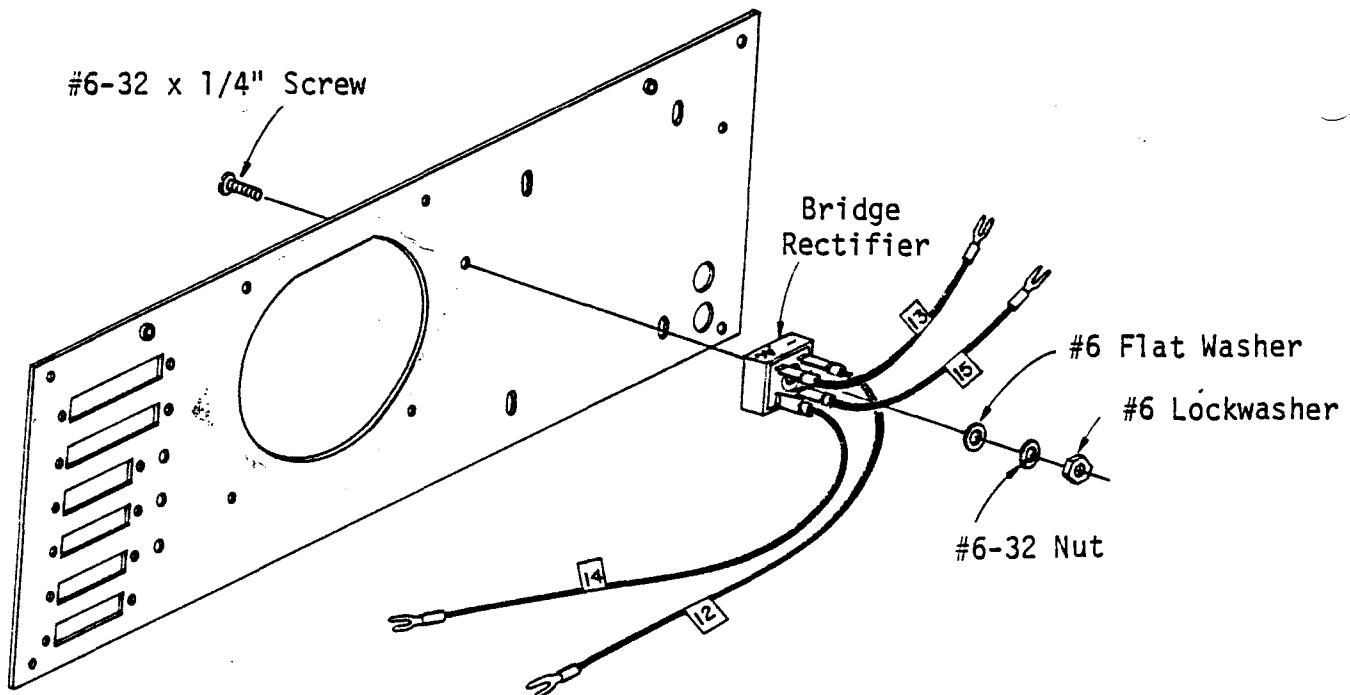

Figure 5-51. Bridge Rectifier Installation
## 5-60. BRIDGE RECTIFIER INSTALLATION (Figure 5-51)
Use the following instructions to wire the bridge rectifier (Bag 1) and mount it to the back panel as shown in Figure 5-51. The bridge rectifier is part number KBH25005.
4. Slip the A size terminal ends onto the bridge rectifier terminals as shown in Figure 5-51. Attach the two 5-inch wires to the "AC" terminals and use masking tape to label them 13 and 15. Attach the two 19-inch wires to the "+" and "-" terminals and label them 14 and 12 respectively.